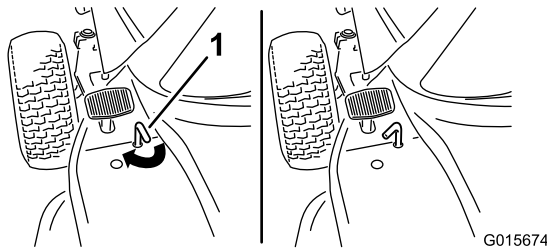

Figure 6
- For machines with a parking brake handle: Turn the parking brake handle (Figure 6) clockwise and gradually take your foot off the brake pedal.